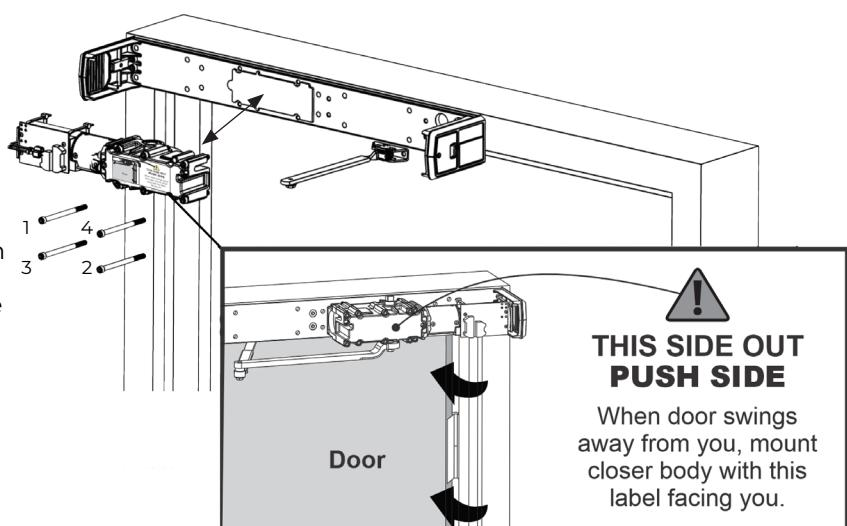

Figure 8 Left Hand Shown
1. Using the four (4) screws provided, install the operator body to the backplate. (Figure 8)
- Tighten screws in a cross pattern until all four (4) screws are tight. (Figure 8)
- “This side out PUSH SIDE” label is facing away from the backplate. (Figure 8)